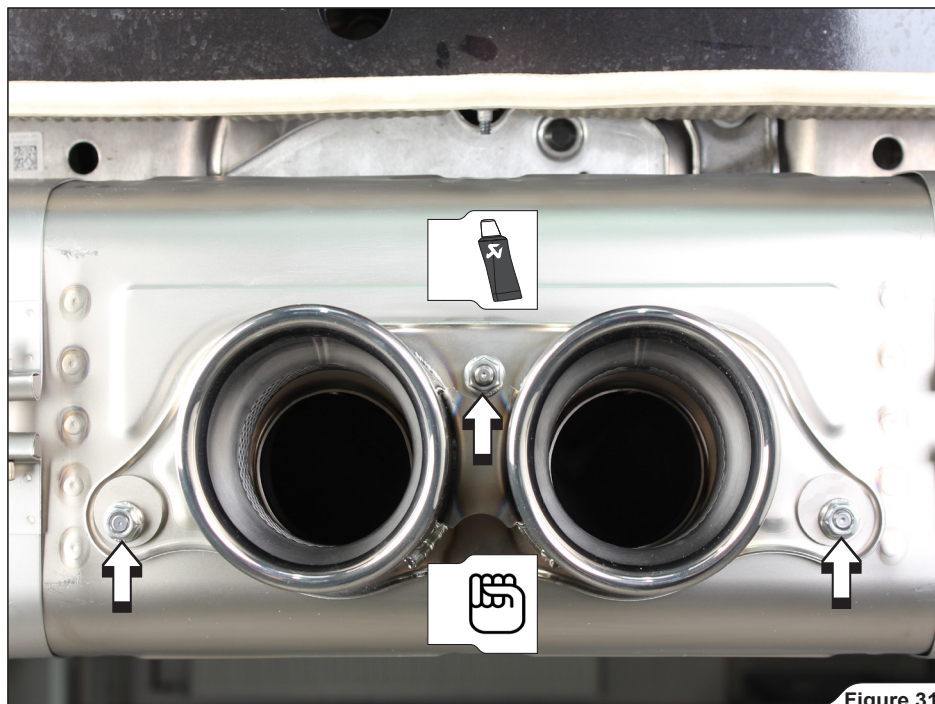

Figure 31
17. Attach Akrapovič tail-pipe onto the muffler's outlet. Correctly assemble and hand tighten nuts and centering washers from Akrapovič installation kit (**Figure 31**).